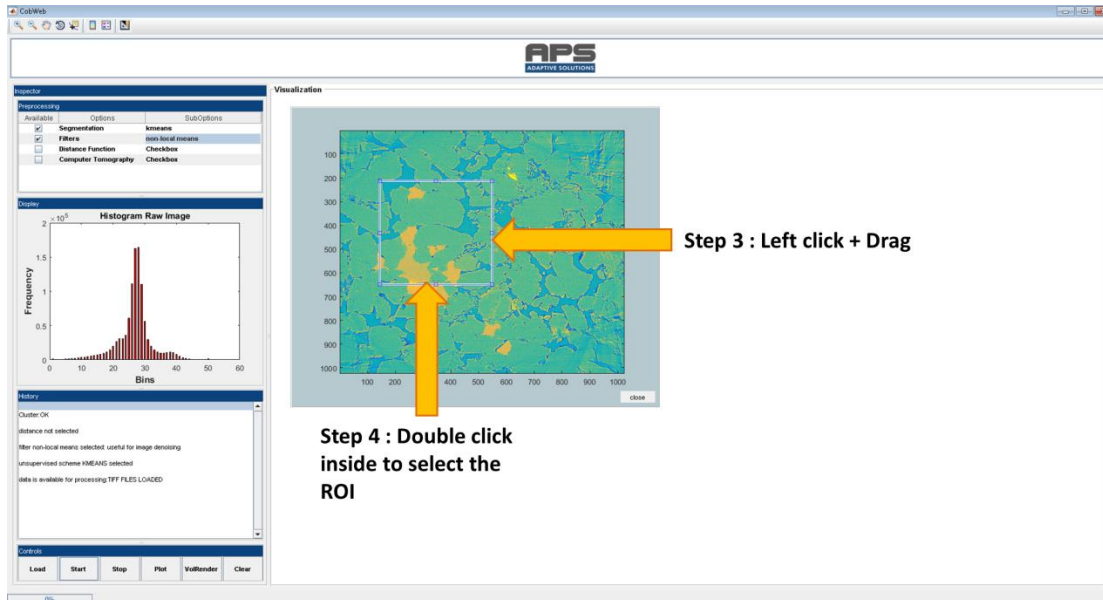

Figure 22: ROI cropping
- Step 3 (Figure 22): ROI can be fixed (selected) by **dragging the bounding box** to the desired size using **left click**.
- Step 4 (Figure 22): Double click inside the bounding box to crop the ROI region.